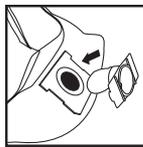

FIGURE 32
38. Position the inlet deflector with the opening facing the left or the right side of the filter bag. Slide the filter bag collar over the inlet deflector, matching the notches of the bag collar to the tabs on the inlet deflector. Bag will only fit properly one way. **FIGURE 32.**